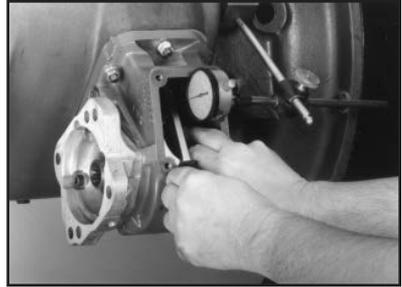

Figure 8
8. Set the proper backlash between the adapter and PTO. After backlash is set, remove PTO from adapter and set aside PTO and gaskets. See page 11 for setting proper backlash (**Fig. 8**).